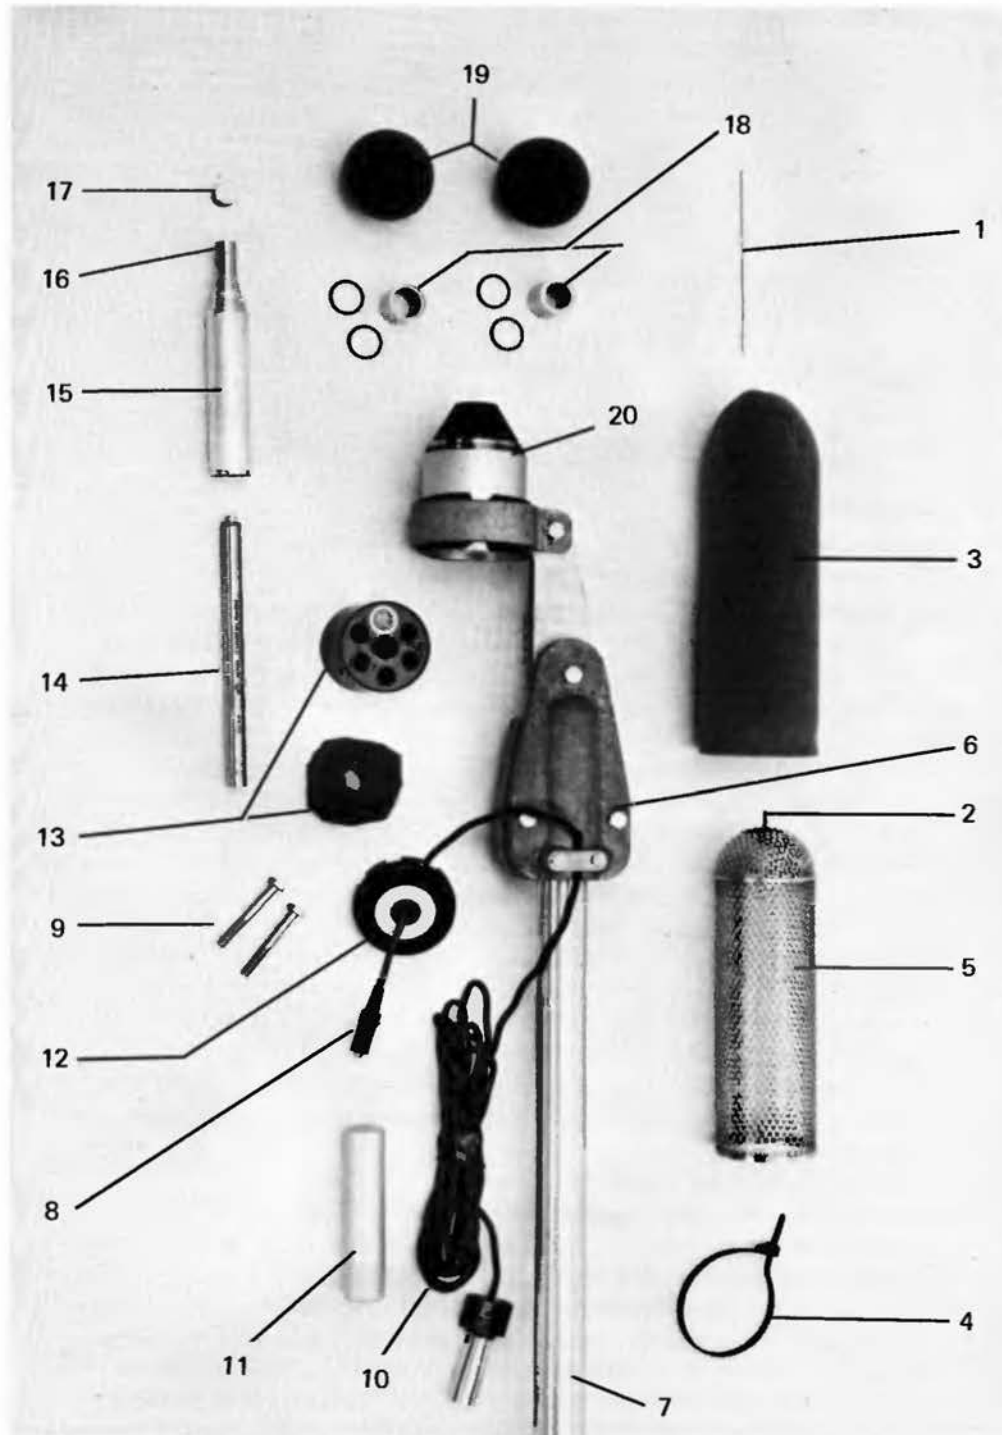

Figure 8-3. System Components.
Each operating 1945-9730 system consists of two functional units, the microphone/preamplifier assembly (See Figure 8-2) with its weatherproof housing and the mast (See Figure 8-3) with mounting hardware. All components are listed in Table 8-1. The microphone is not supplied but may be selected from those listed in Table 8-2.
Figure 8-1 illustrates the mast, with mounting hardware in position to hold the microphone assembly atop the supporting mast. Two cap screws (See Figure 8-3) are used to secure the assembly to the mast (supplied). Two longer cap screws are supplied for use with a 2-in. (50 mm) mast (not supplied).
All items are illustrated in Figure 8-3. The numbers refer to the identifiers in the figure.
- 14 Preamplifier — Connects to cable (10) and indirectly to microphone (17), described in Section 4
a. Identify all components of the system before beginning the assembly procedure. Arrange parts in somewhat the same order as that shown in Figure 8-3. Refer also to Figures 8-1 and 8-2. The numbers in parentheses refer to the identifiers in Figure 8-3.
b. Select the output cable (10). Insert the smaller cable connector through the seal nut assembly (12), the desiccant cartridge and insulating pad (13). Attach connector (8) to preamplifier (14); observe positioning key on connector and preamplifier. On some models the insulating pad is attached to the housing assembly.
d. Hold housing assembly (20) in one hand and insert the preamplifier (14) into the large end of the housing.
e. Turn the microphone extender upside down to let the center pin drop down. Push the preamplifier (14) forward and thread into microphone extender (15). Thread other end of extender into housing assembly (20). The center pin should protrude about 1/8-in. (3 mm) from the extender.
f. Fit insulating pad (if not attached) and desiccant cartridge (13) into the housing assembly (20) and secure with the threaded seal-nut assembly (12).
g. At the base of the housing (20) pull the cable gently to make a good seal.
h. Thread the protective cap (17) or a 1/2-in. microphone (16) to the connector on the microphone extender (15). The 1/2-in. (12.70 mm) microphone does not require an adaptor.
i. If a 1-in. (23.81 mm) microphone is to be used, install the appropriate adaptor (18) with O-rings before installing microphone. (Refer to para. 8.8)
j. Install proper size windscreen (19).
k. Thread shield (5) to housing assembly (20). Pull on boot (3) and secure with boot clamp (4). Thread spike (1) into spike holder (2).